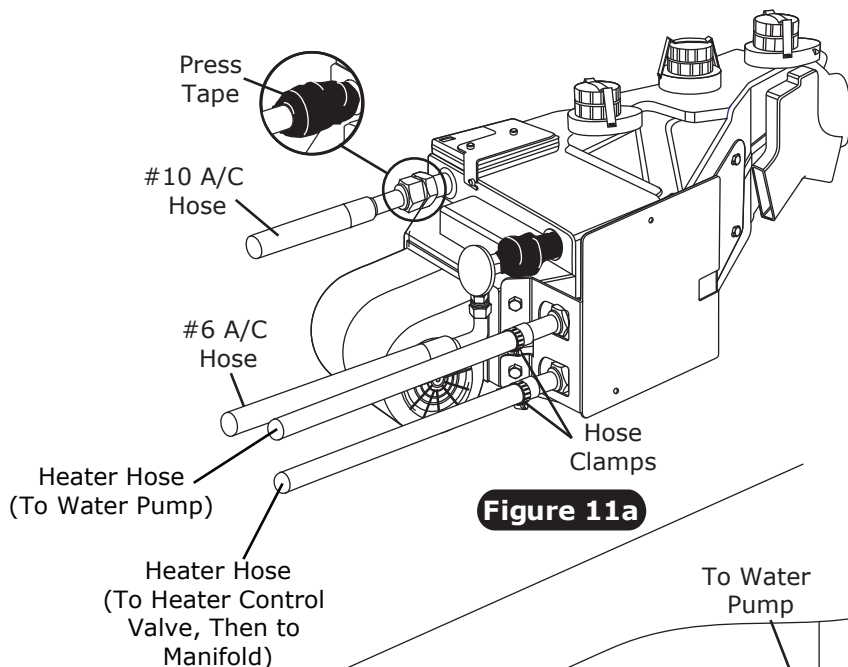
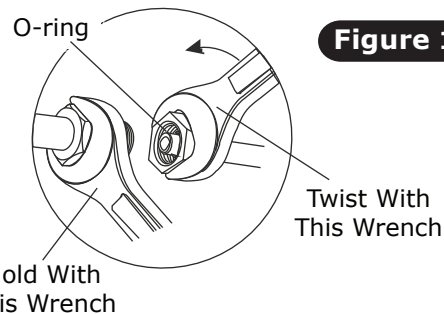
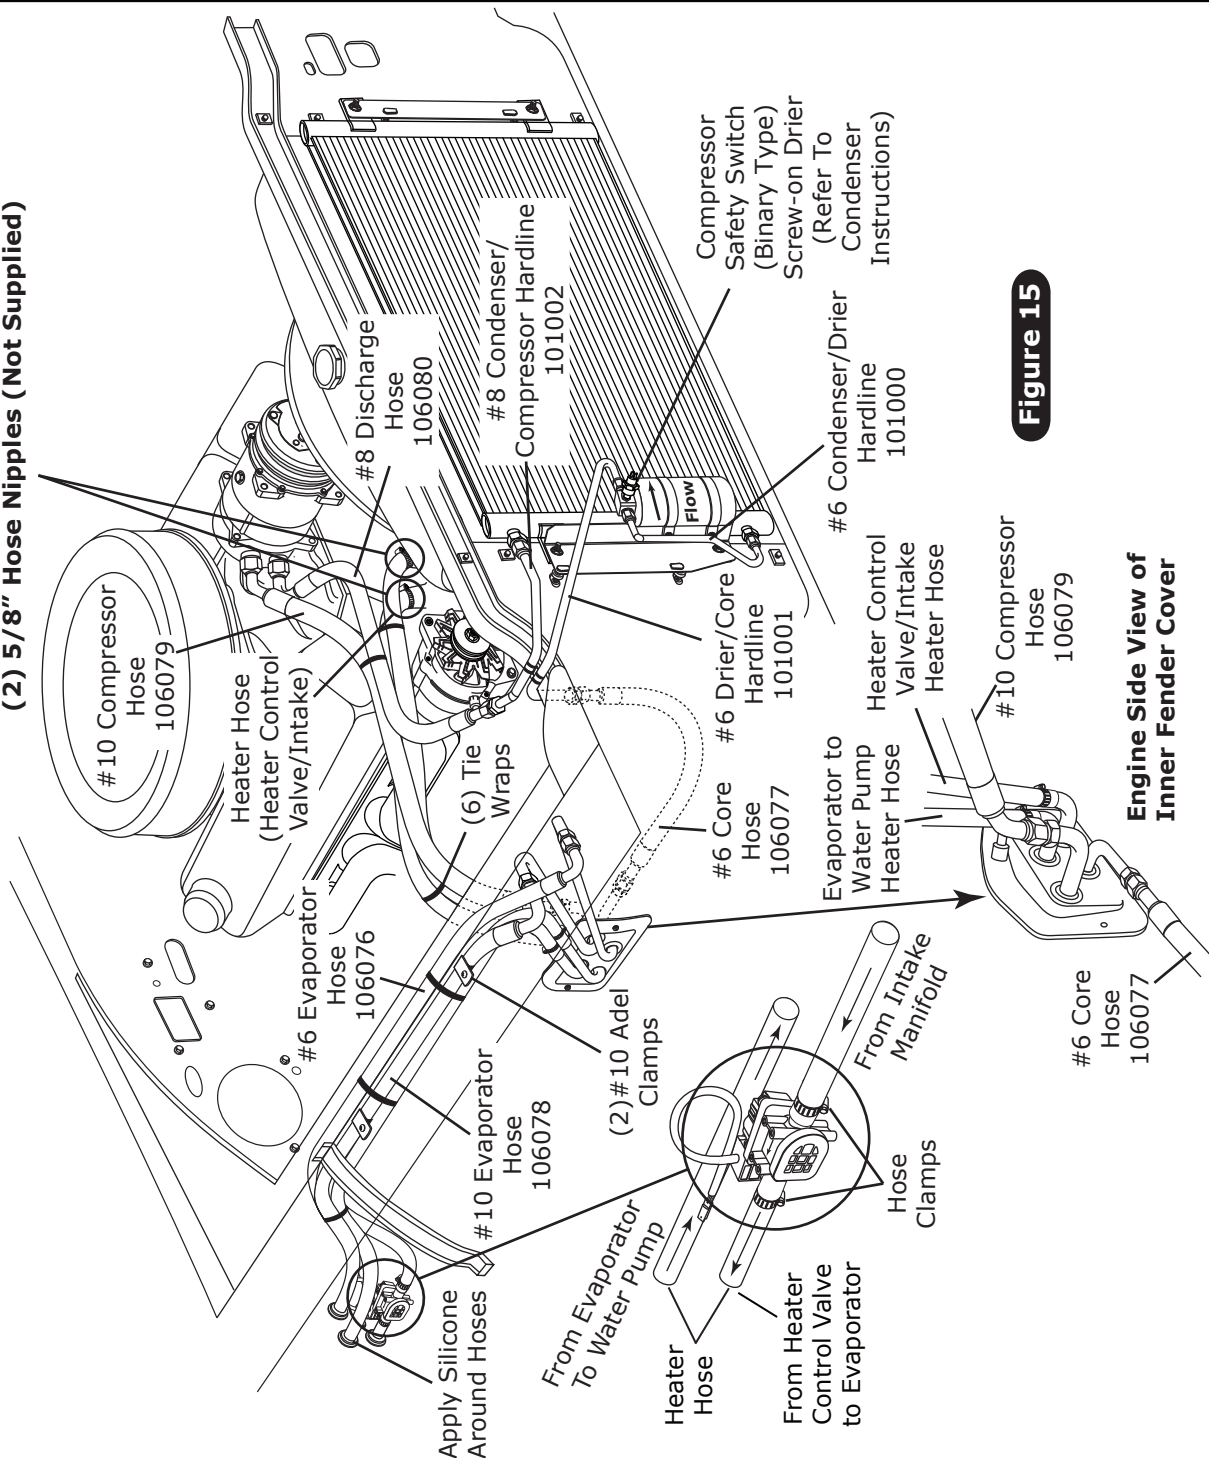

Figure 11a
Figure 14
Figure 15
1. On a workbench, install evaporator rear bracket and heater hose fittings with properly lubricated O-rings (See Figure 8, Page 10, and Figure 14, Page 14).
1. Install A/C and heater hoses (See Figure 11a, below).
1. Locate the #8 compressor A/C hose. Lubricate (2) #8 O-rings and connect the 90° female fitting to the #8 discharge port on the compressor. Then route the straight female fitting with R134a service port to the #8 condenser hardline coming over the core support. Tighten each fitting connection as shown in Figure 14, above.
2. Locate the #10 compressor A/C hose. Lubricate (2) #10 O-rings and connect the 45° fitting to the #10 suction port on the compressor. Route the 45° female fitting with R134a service port to the #10 hardline on the inner fender cap. Lubricate (2) #10 O-rings and connect the 90° female fitting in the wheel well to the #10 hardline on the inner fender cap. Then route the straight female fitting from the inner fender cap to the #10 fitting on the evaporator (See Figure 11a, Page 12 and Figure 15, Page 15). Tighten each fitting connection as shown in Figure 14, above.
3. Locate the #6 evaporator A/C hose. Lubricate (2) #6 O-rings and connect the straight female fitting to the #6 hardline coming over the core support from the drier. Route the straight female fitting to the #6 hardline on the inner fender cap. Lubricate (2) #6 O-rings and connect the 90° female fitting in the wheel well to the #6 hardline on the inner fender cap. Then route the 90° female fitting from the inner fender cap to the #6 fitting on the evaporator (See Figure 11a, Page 12 and Figure 15, Page 15). Tighten each fitting connection as shown in Figure 14, above.
1. In engine compartment, route a piece of heater hose from the water pump to the top heater fitting on the inner fender cap (See Figure 15, below). Secure using hose clamps.
2. In engine compartment, route a piece of heater hose from the intake to the bottom heater fitting on the inner fender cap (See Figure 15, below). Secure using hose clamps.
3. In wheel well, route a piece of heater hose from the top heater fitting on the inner fender cap to the top heater fitting of the heater core as shown in Figure 11a, Page 12, and Figure 15, below. Secure using hose clamps.
4. In wheel well, route a piece of heater hose from the bottom heater fitting on the inner fender cap to the bottom heater fitting of the heater core as shown in Figure 11a, Page 12, and Figure 15, below. Secure using hose clamps. **NOTE: Install heater control valve in line with intake manifold (pressure side) heater hose, and secure using hose clamps as shown in Figure 15, below. Also note proper flow direction.**
5. Apply a bead of silicone around each hose where it passes through the grommet on the firewall (See Figure 15, below).